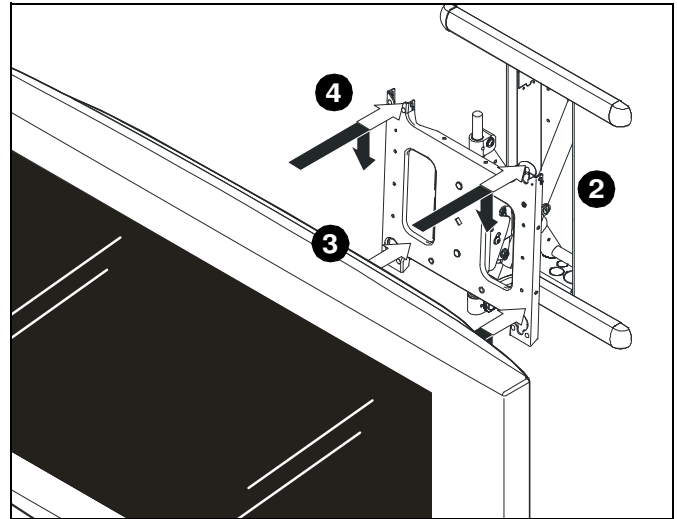
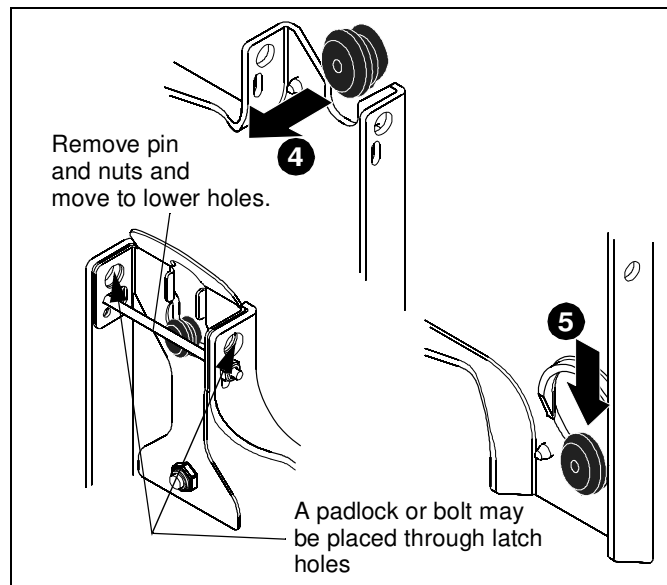

Figure 10
Figure 11
2. Move mount faceplate to extended position by grasping faceplate and pulling outward away from wall. (See Figure 10)
3. While supporting both sides of display, align four mounting buttons on display or interface bracket with four mounting holes in faceplate. (See Figure 10)
4. Lower display into place listening for audible "click" to ensure recessed area of mounting buttons are properly seated in lower area of mounting holes and ClickConnect mechanism has engaged. (See Figure 10) and (See Figure 11)
NOTE: Holes are provided in the faceplate for use with a padlock or similar locking device, if desired. In addition, the pin and nut may be removed from the upper holes and moved to the lower holes for use as a more permanent locking device. (See Figure 11)